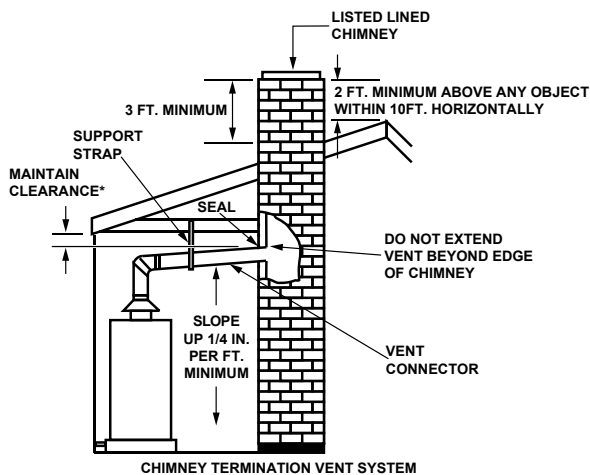

FIGURE 19.
- The connector must not extend beyond the inner edge of the chimney as it may restrict the space between it and the opposite wall of the chimney (Figure 19).